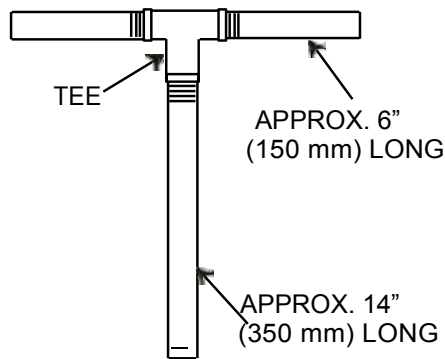

Figure 4. Rotating Assembly Tool
*An optional disassembly tool is available from the factory. If the tool is used, follow the instructions packed with it. A similar tool may be assembled using 1/2" (12mm) pipe (schedule 80 steel or malleable iron) and a standard tee (see Figure 4). All threads are 1/2" NPT. Do not pre-assemble the tool.*